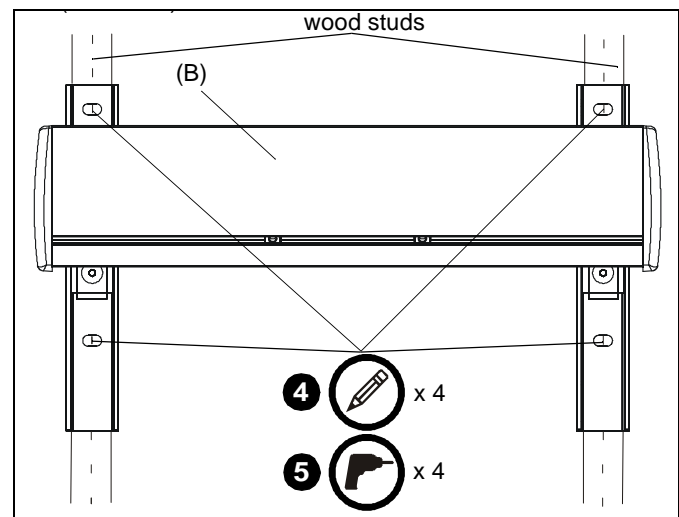

Figure 3
3. Line up inner four holes on mounting bracket (B) with center of studs at desired mounting location. (See Figure 3)
4. Using mounting bracket (B) as a template, mark four holes at the holes in bracket. (See Figure 3)
5. Drill four 7/32" holes at marked locations in wall. (See Figure 3)